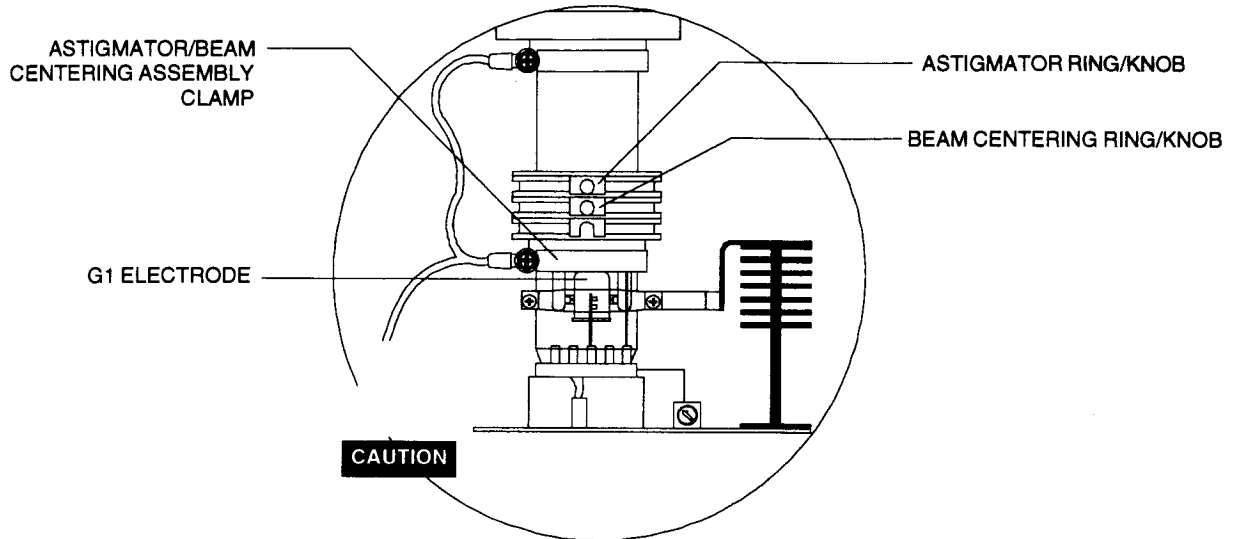
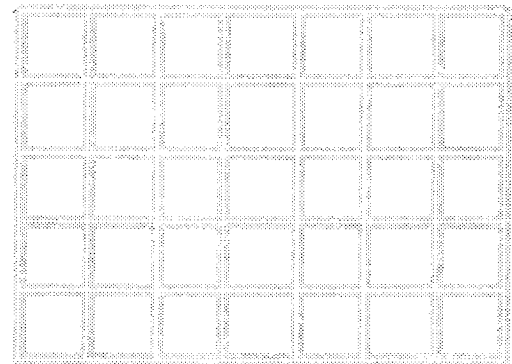

FIGURE 9-39. Astigmator/Beam centering assembly position
FIGURE 9-40.
- STEP 1. Check and position the astigmator/beam centering assembly. The clamp used for securing the assembly should be in-line with the end of the G1 electrode located inside and at the rear of the CRT neck. See Figure 9-39.
- ✘ Adjust the beam center ring, closest to the CRT amplifier (Figure 9-39), by rotating and turning the knob until the bright vertical and horizontal lines in the crosshatch pattern are centered within the de-focused crosshatch pattern or halo. See Figure 9-40.